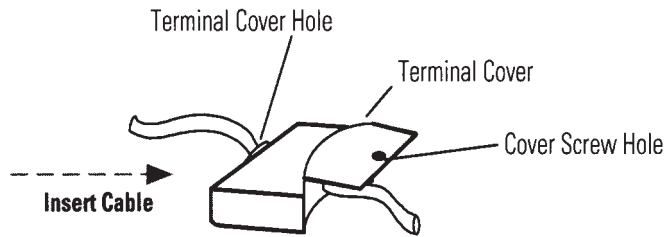

Figure 2.2 Inserting Multi-Conductor Cable
3. Insert the end of the multi-conductor cable through the hole in the terminal cover as shown in Figure 2.2.